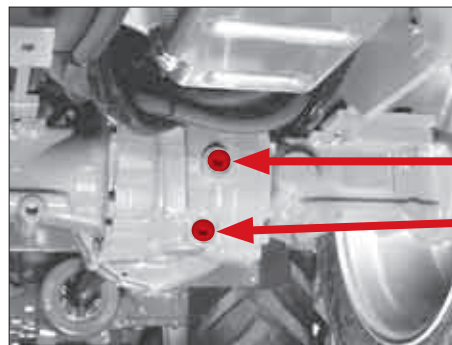

Fig. 95
4. Remove the hex socket screws items a, c, e (Fig. 95/96/97). For the wheel reduction gears raise the wheel with a jack first and turn it so that the hex socket screw item e (Fig. 97) is horizontal.
7. Replace the hex socket screws items a, c, e (Fig. 95/96/97).
4. Place a sufficiently large receptacle under the drain opening of the differential housing item b (Fig. 95).
5. Remove the hex socket plug Item a (Fig. 95); the transmission oil will now drain more quickly.
6. Remove the hex socket plug Item b (Fig. 95).
4. Install the hex socket screw on the differential housing Item b (Fig. 95) back in.
5. Pour new transmission oil through the filler neck into the axle Item a (Fig. 95).
7. Install the hex socket plug Item b (Fig. 95) on the differential housing back in.